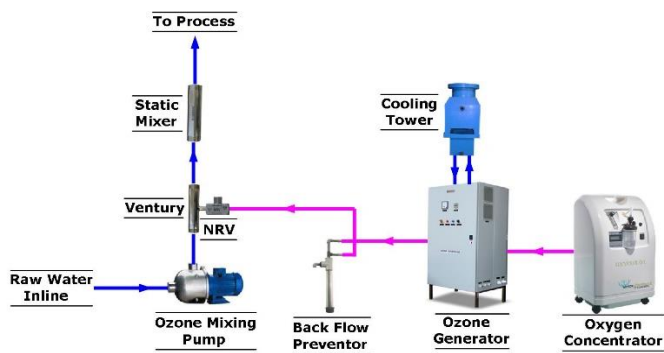

Fig.5 Water Cooled With Cooling Tower Ozone Generator
- Water cooled with isolated dedicated Cooling Tower for cooling water, having ozone generators of capacities 10g/hr to 250g/hr (fig.5). Generally this method of cooling is used for waste water ozonation.